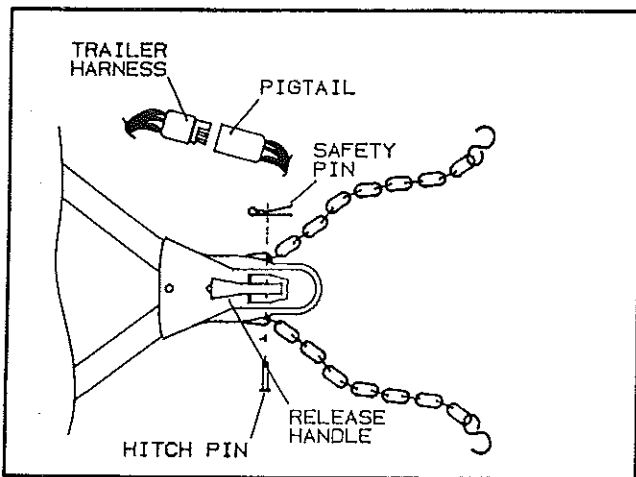

FIGURE 1
3. Disconnect electrical pigtail and safety chain, and release the coupler release handle. See Figure 1.